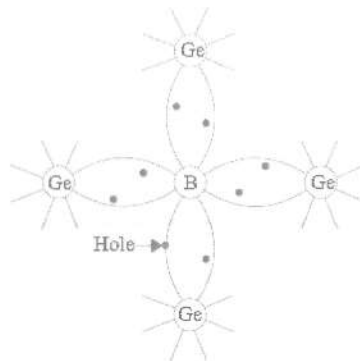

Figure 3.7 Trivalent material
This type of semiconductor is obtained when traces of a trivalent like boron (B) are added to a pure germanium crystal. In this case, the three valence electrons of a boron atom form covalent bonds with four surrounding germanium atoms but one bond is left incomplete and gives rise to a hole as shown in Figure 3.7 below.